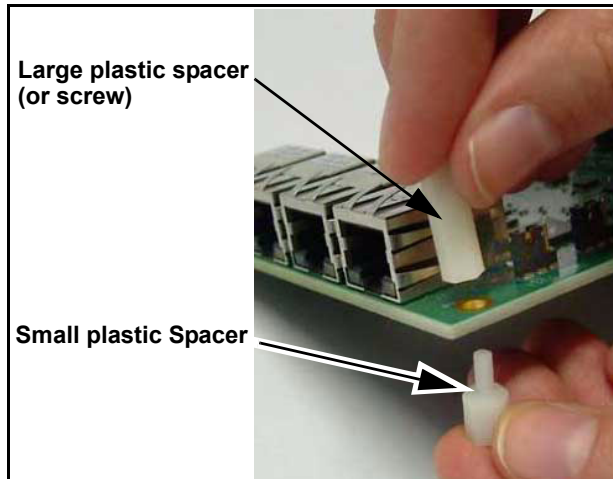
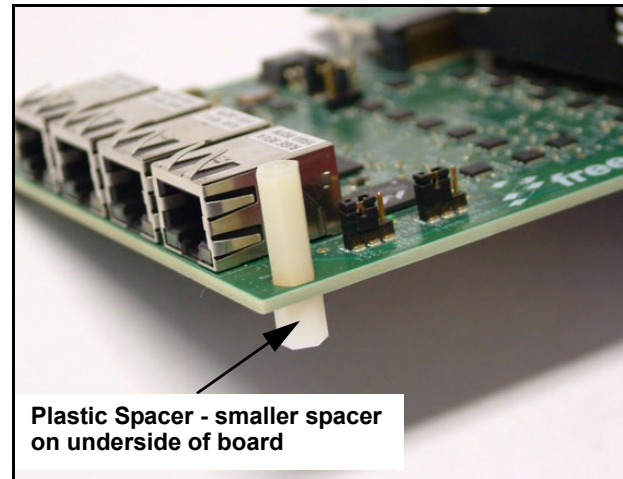

Figure 2-1. Fastening the plastic spacers
Figure 2-2. Plastic spacers fastened
1. *For Stand-Alone Mode only:* Fasten the four plastic spacers. See Figure 2-1 and Figure 2-2. Note that the smaller spacer is to be fastened to the underside of the board, as shown in the figures.